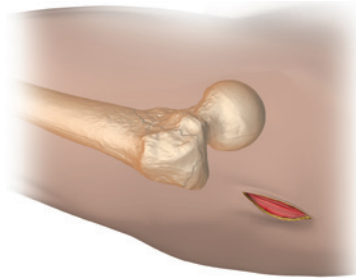

Figure 4
2. Make a longitudinal incision proximal to the greater trochanter. Carry the incision through to the fascia and palpate the tip of the greater trochanter (Figure 4).